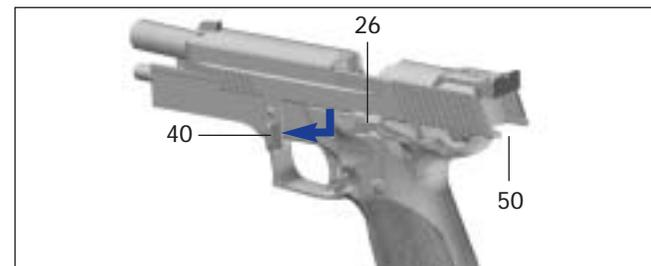

Fig. 8
4. Thumb down takedown lever 40 (Fig. 8).